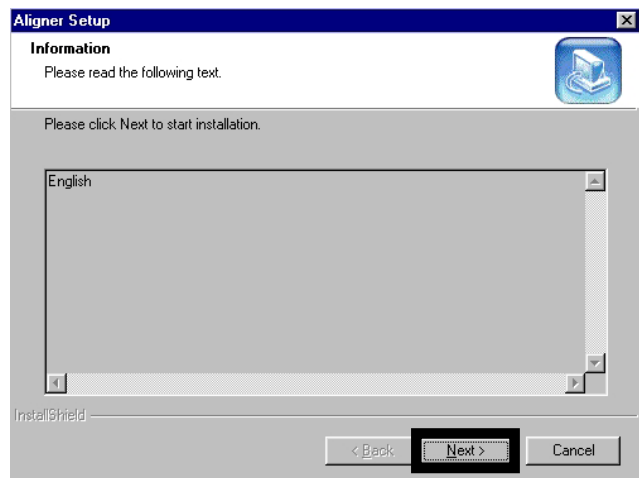

Figure 3-8
11. The aligner confirms the languages that have been chosen. Click on **<NEXT>** to proceed with the installation. If a language is not chosen, the operator can click on **<BACK>** to step back a screen to select additional languages. (Figure 3-8)